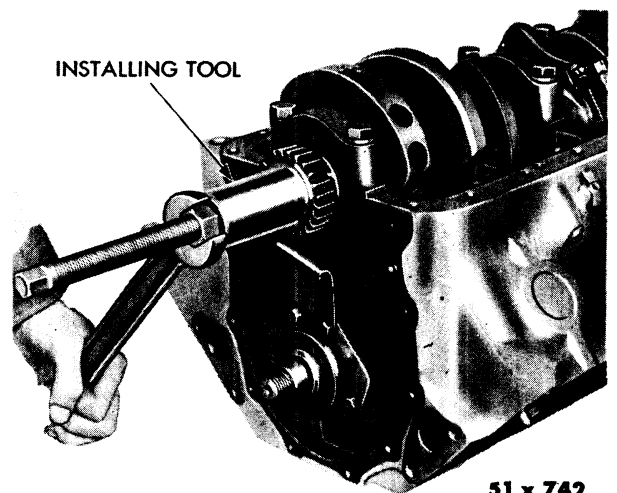

Fig. 26—Installing Crankshaft Timing Gear
- (1) Insert the crankshaft timing gear key in slot and install gear with the timing mark out. Press on shaft, using Tool C-3033, as shown in Figure 26.
- (2) Rotate the crankshaft until the mark on the timing gear is exactly in line with the center